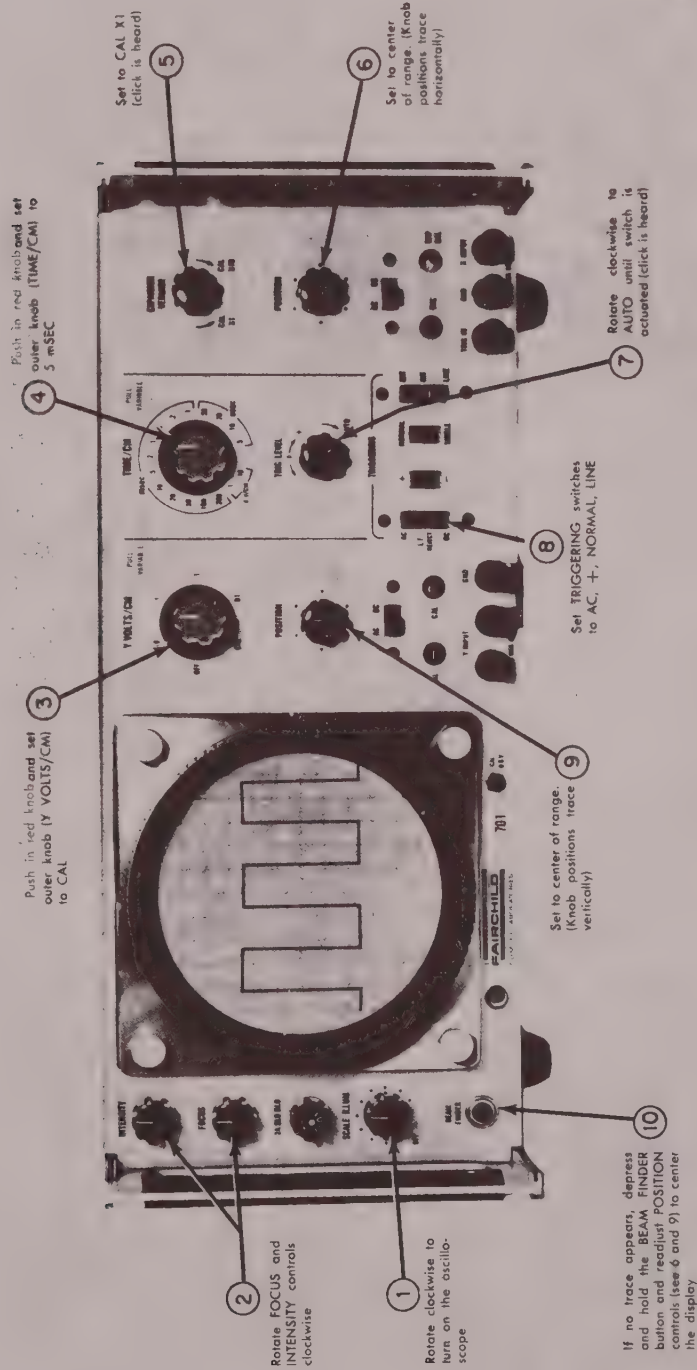

Figure 2-5. Initial Setup of Type 701 Oscilloscope
- Figure 2-5. Initial Setup of Type 701 Oscilloscope
We know that you are anxious to get acquainted with your new instrument. To aid you in this endeavor, you may set up the instrument using the built-in calibrator signal to demonstrate the effects of the various controls on the display. See Figure 2-5.
1. Set up the oscilloscope as indicated in Figure 2-5.
1. Apply the desired signal to Y INPUT and set front-panel controls as previously indicated in Figure 2-5.